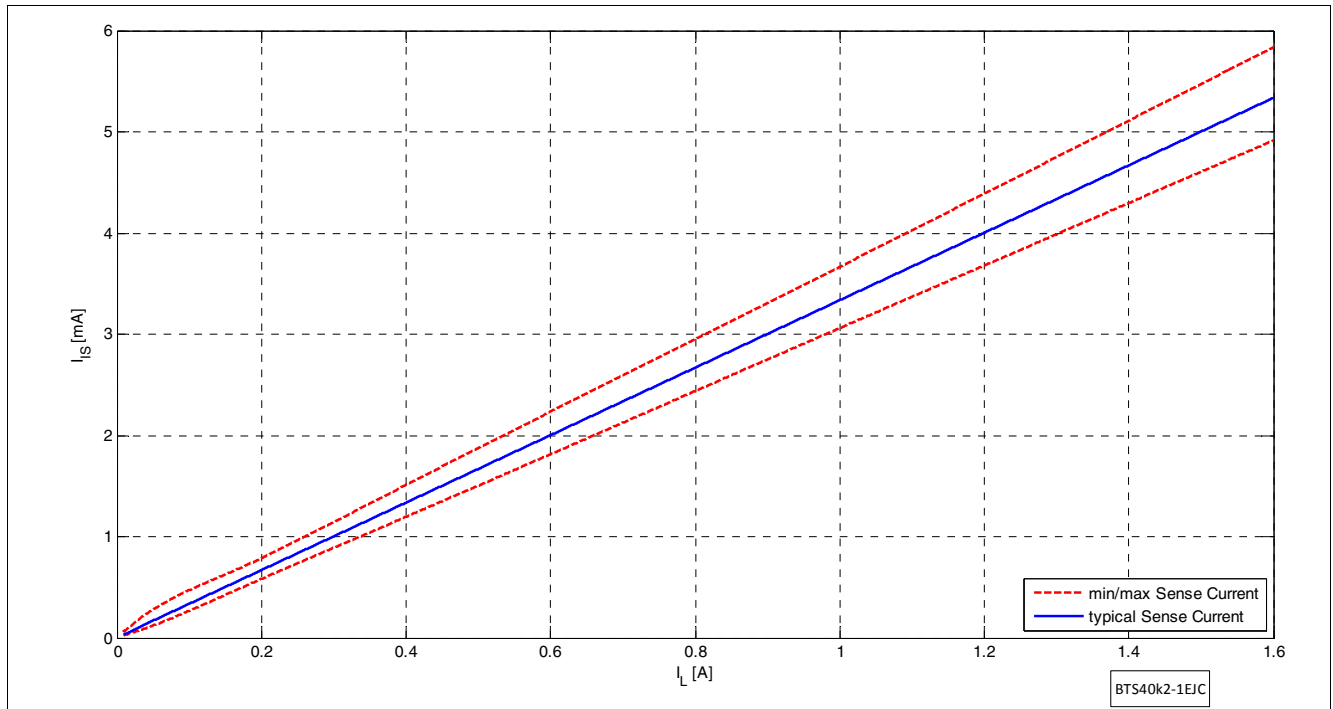

Figure 18 Current Sense for Nominal Load
**Figure 18** shows the current sense as a function of the load current in the power DMOS. Usually, a pull-down resistor  $R_{IS}$  is connected to the current sense IS pin. This resistor has to be higher than 560  $\Omega$  to limit the power losses in the sense circuitry. A typical value is 1.2 k $\Omega$ . The blue curve represents the ideal sense current, assuming an ideal  $k_{ILIS}$  factor value. The red curves shows the accuracy the device provides across full temperature range at a defined current.